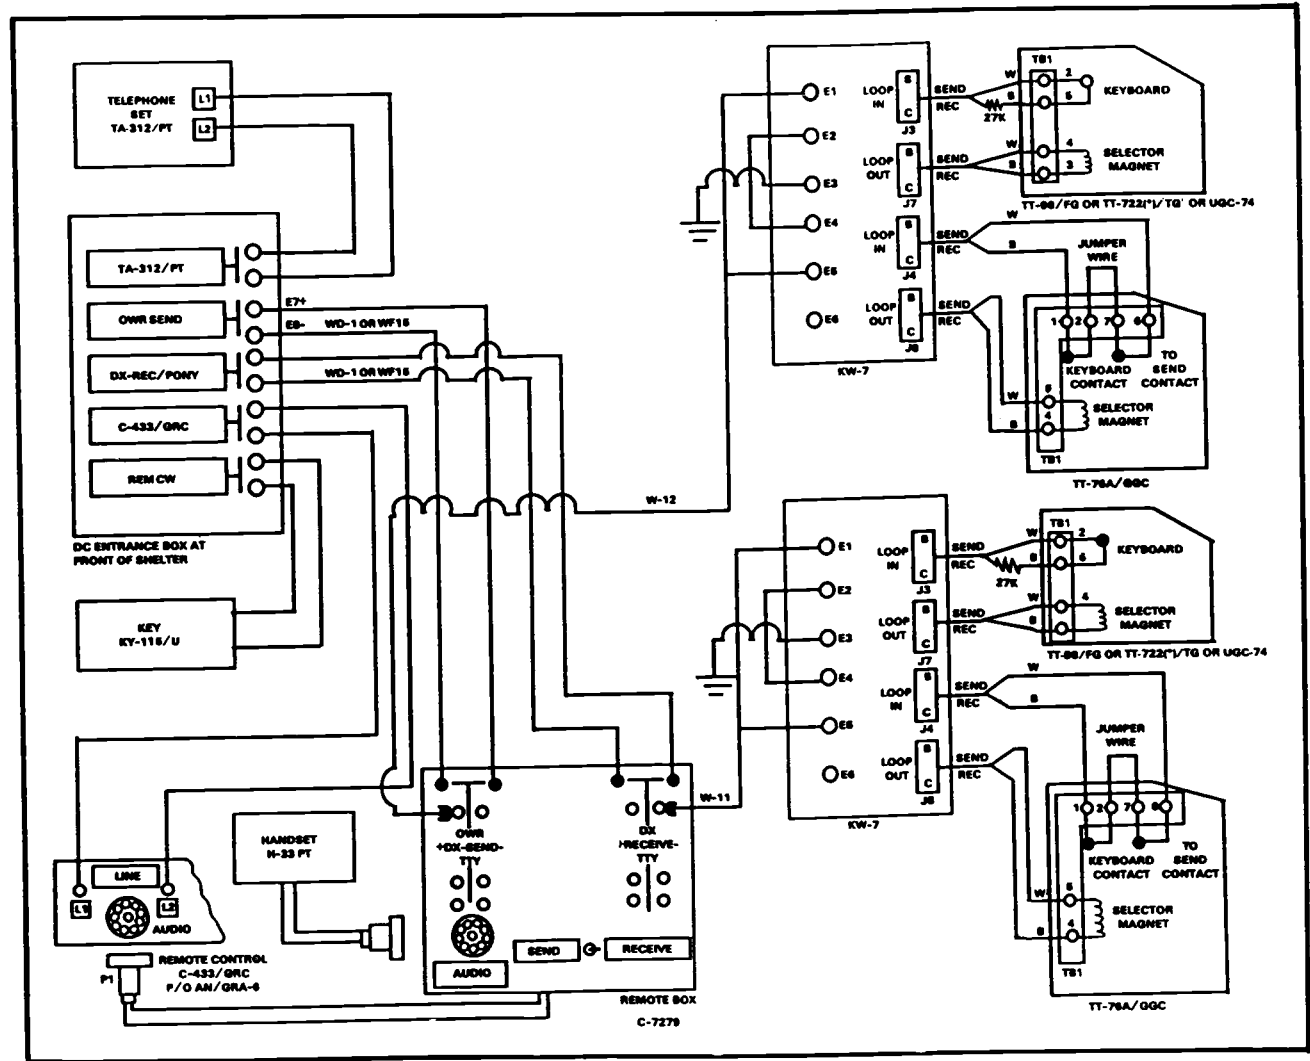

Figure 1-6. Wiring diagram for secure remote operation of Radio Teletypewriter Set AN/GRC-122 in full duplex.
**If remote box or remote TTY is defec- tive, refer to a higher level of maintenance. (See Figures 1-6, 1-7, 1-8, 1-9, 1-10 and 1-11.)**